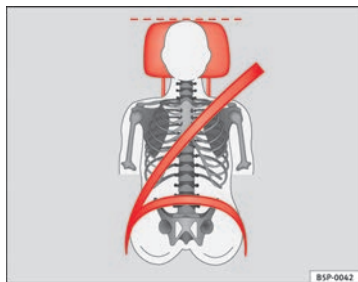

Fig. 13 Correct seat belt and head restraint positions, viewed from front
- The shoulder part of the seat belt must lie on the centre of the shoulder, never across the neck. The seat belt must lie flat and snugly on the torso ⇒ fig. 13.